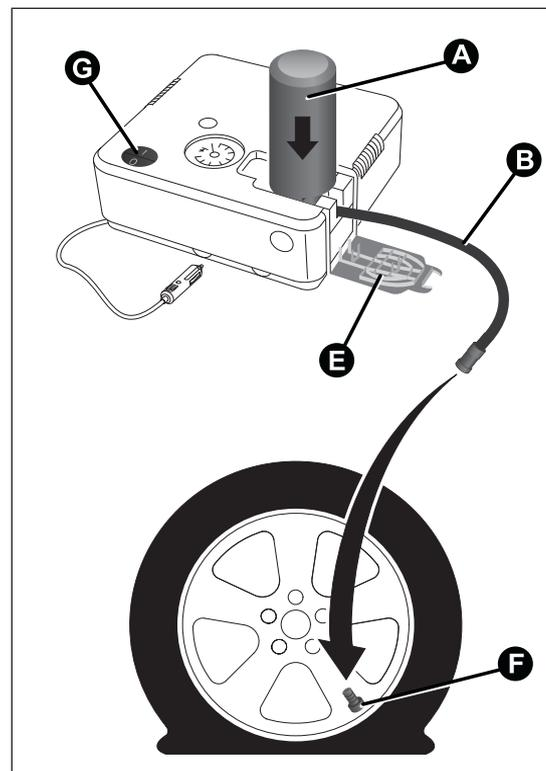

fig. 105
- locate the filler pipe B fig. 105 already connected to the spray bottle A;